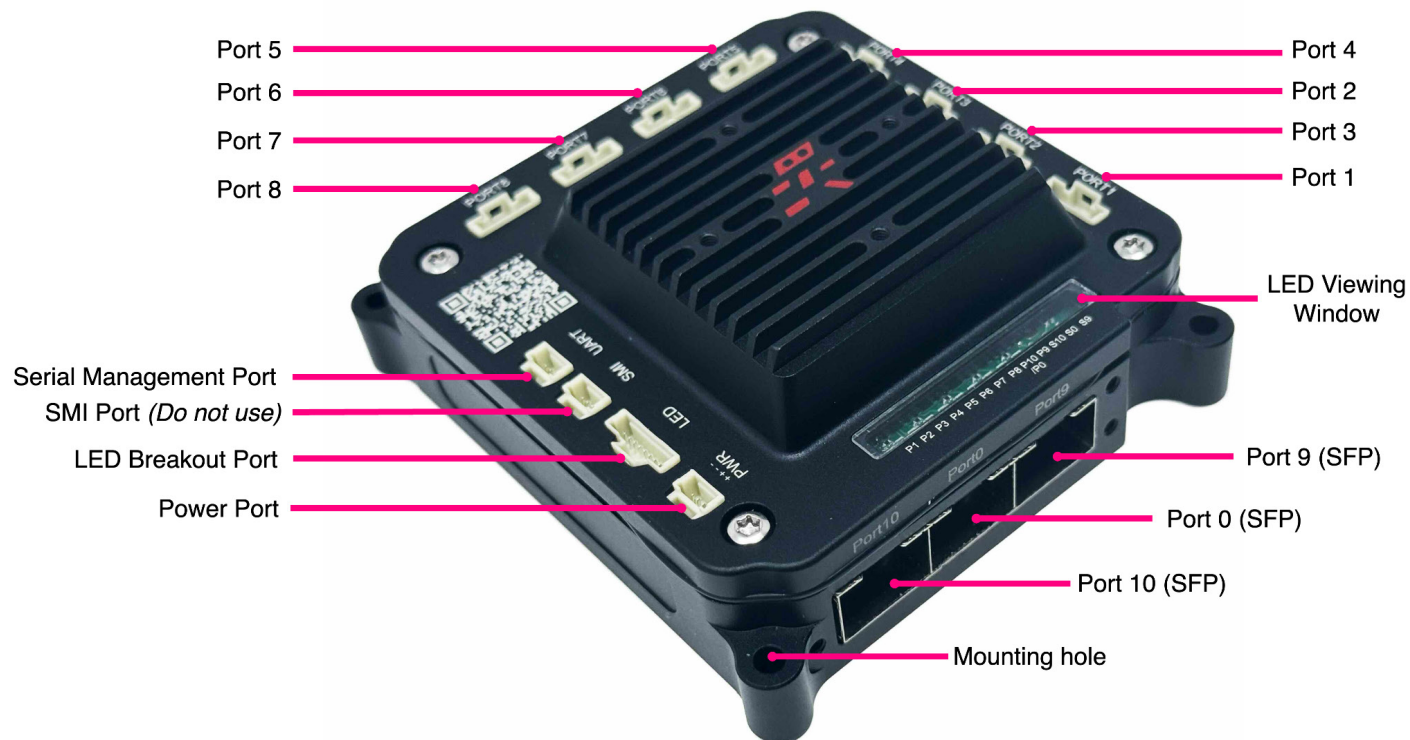

Figure 1. Top view of Puck Maxi
Step 1: Plug a PWR/MGMT cable into the “PWR” port on Puck Maxi (refer to Figure 1).